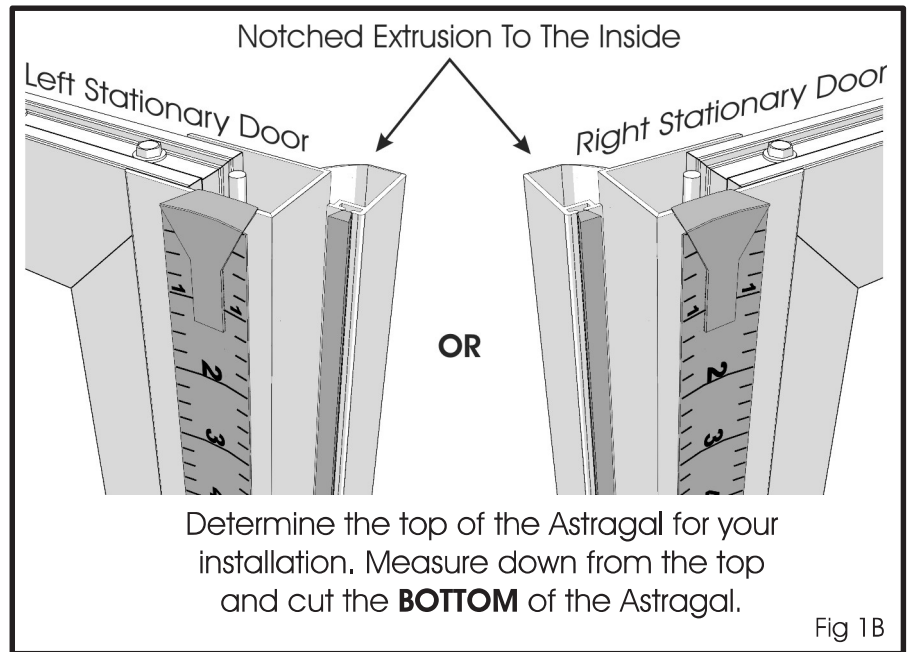

Fig 1B
**1B.** It is **EXTREMELY** important to identify the proper end of the Astragal to cut for your installation. Place the Astragal against the stationary door as shown for a left or right installation to correctly identify the top. Measure down from the top and cut the **BOTTOM** of the Astragal to length (Fig 1B).